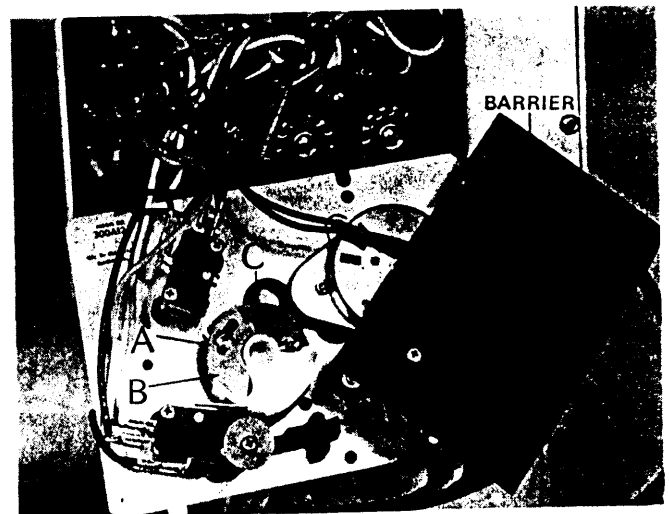

Fig. 17
If backwash time adjustment is needed, see Fig. 17. **THE TIMER MUST BE DISCONNECTED FROM THE POWER SUPPLY WHEN MAKING INTERNAL ADJUSTMENTS.**
3. Refer to Fig. 17. Loosen screw (A) and rotate the black cam segment (B) until its pointer indicates the desired backwash time on the grey cam segment (C). Retighten screw (A).